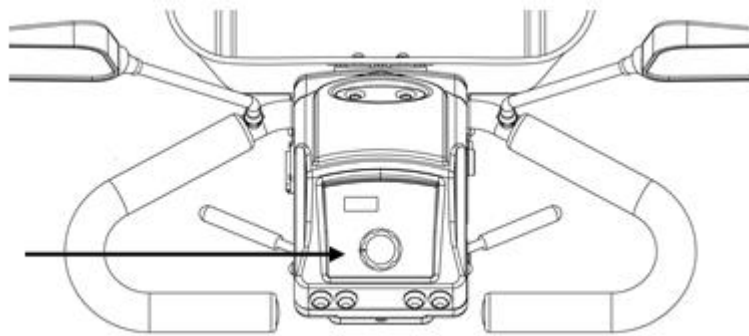

Figure 5.2
5.3.1 Speed dial allows you to set various forward and reverse speeds. (See Figures 5.2)